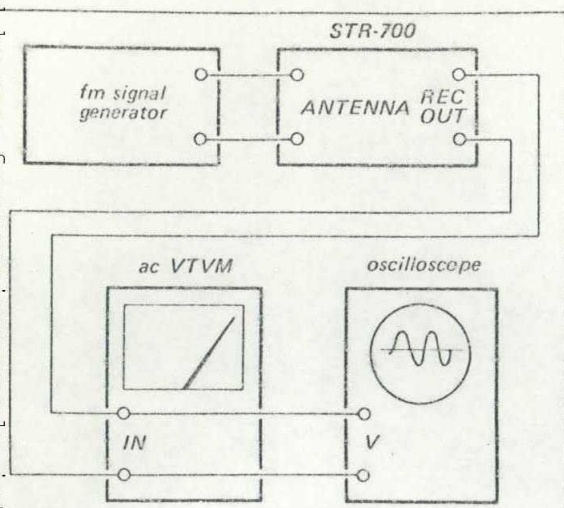

Fig. 3-7. Fm frequency coverage and tracking alignment setup
- Connect the equipment as shown in Fig. 3-7.